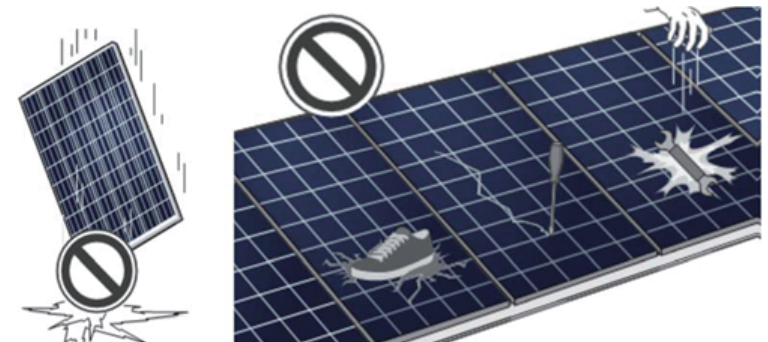

Figure 4. Handling Precautions
10. Do not step or walk on the Modules. Doing so may damage modules (please see Figure 4).
11. Do NOT carry wet or hot Modules dropping a module from a height and the impact of falling tools may affect the electrical performance or break the module (see Figure 4).